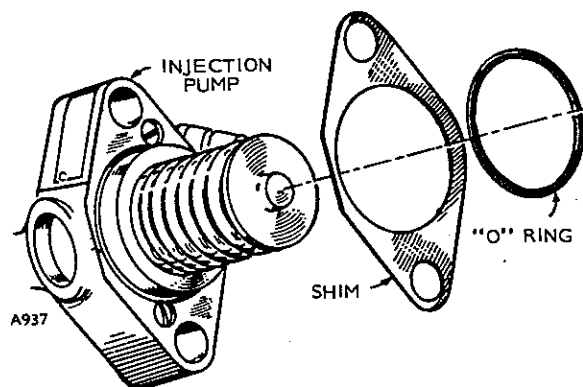

FIGURE 9-8. INSTALLING SHIMS
1. Slide shim or shims (using proper thickness of shims for correct timing) over pilot until they are flat on pump flange, Figure 9-8.